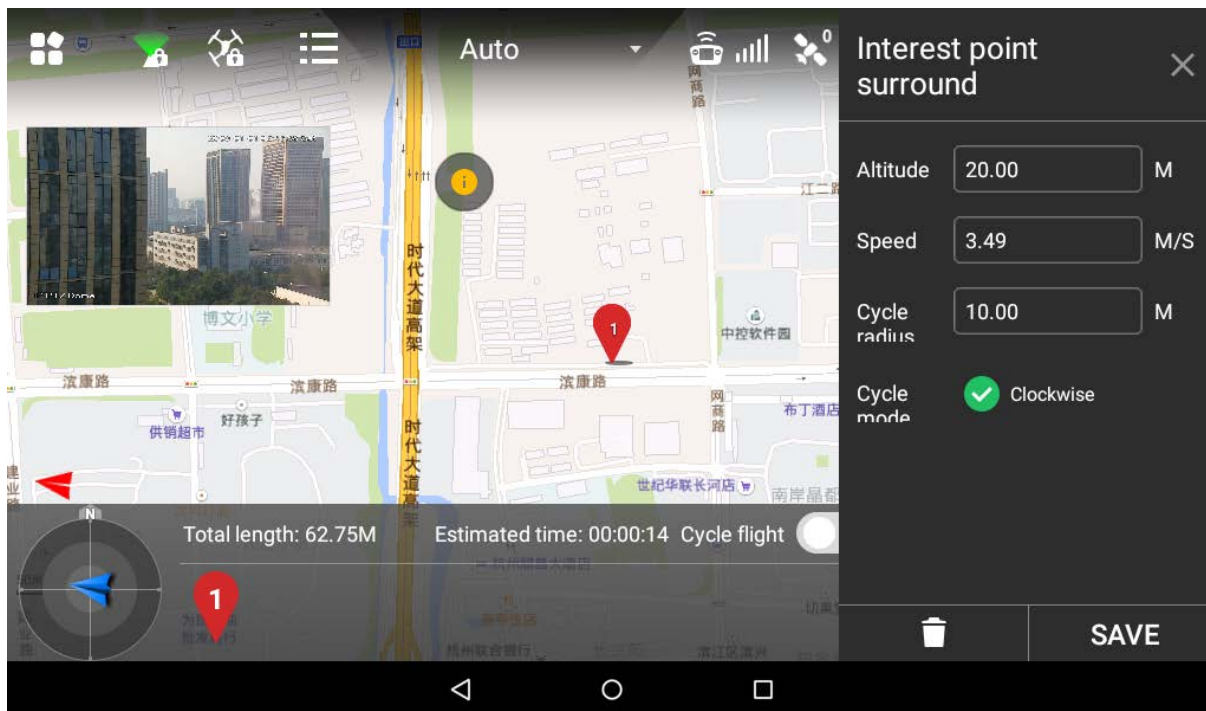

Figure 4-15
Step 3 Click the interest point, and the point icon will become red. Settings interface of interest point will be displayed on the right of main interface, as shown in Figure 4-15.